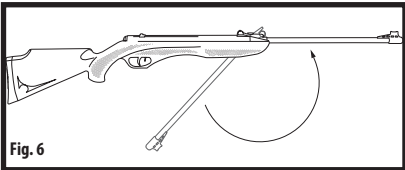

Fig. 6
2. Move the barrel back to its original position by pushing it up until it locks (Fig. 6).